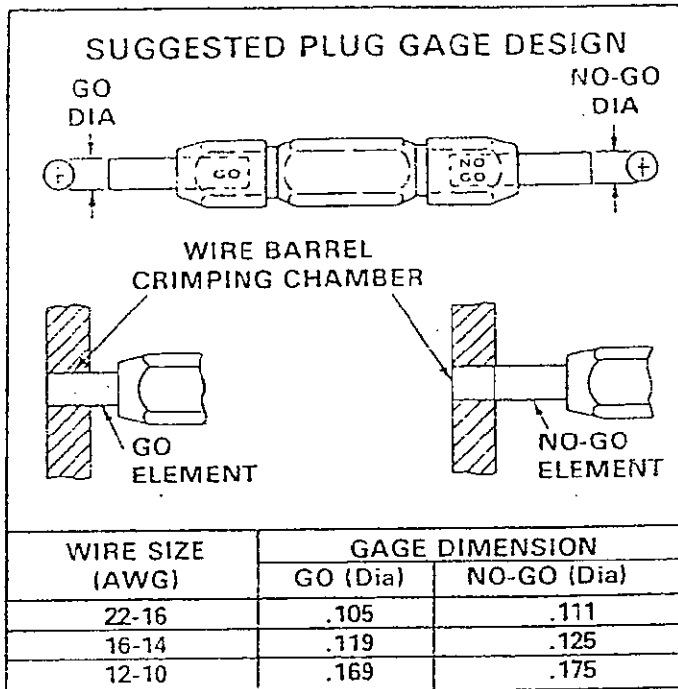

Fig. II-2
This inspection requires the use of a GO NO-GO Gage conforming to the diameters in Figure II-2. AMP does not manufacture or market these gages.
2. Align the GO element with the wire barrel crimping chamber. Push element straight into the crimping chamber without using force. The GO element must pass completely through the crimping chamber as shown in Figure II-2.
3. Now align the NO-GO element and try to insert it straight into the same crimping chamber. The NO-GO element may start entry but must not pass completely through as shown in Figure II-2.